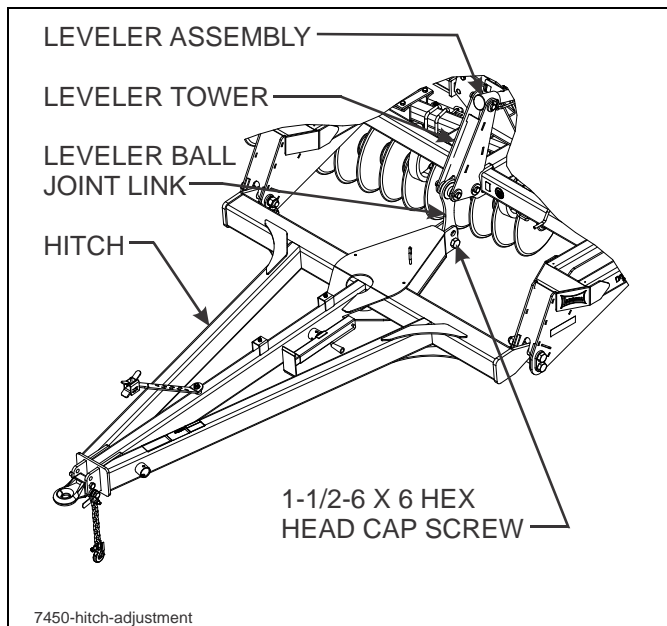

Figure 4-14: Hitch Adjustment
4. To adjust the hitch (See Figure 4-14.):